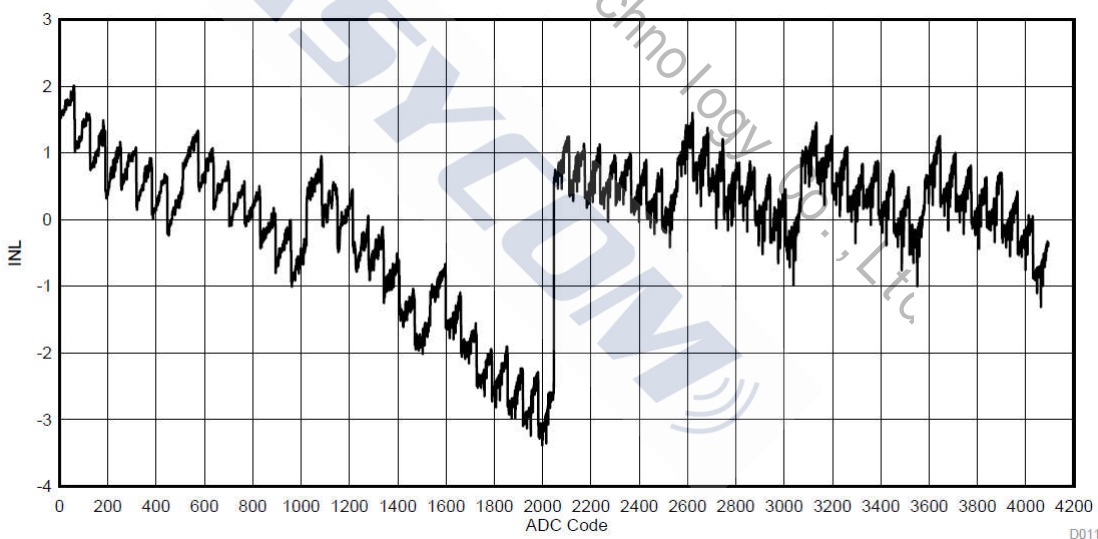

Figure 5: SoC ADC INL vs ADC Code (Internal Reference, No Scaling)
(4) For a typical example, see Figure 5
(5) Applied voltage must be within absolute maximum ratings (Absolute Maximum Ratings) at all times.